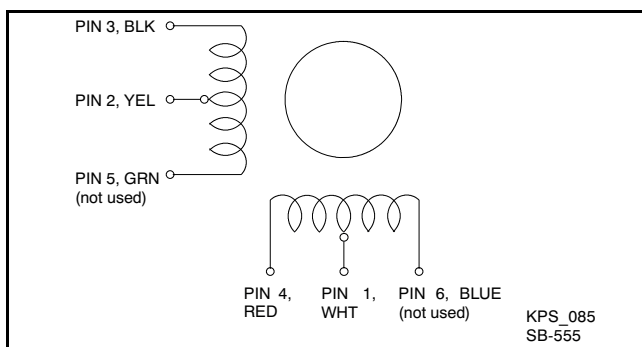

Figure 5-15 Actuator Coil Group
10. Check the stepper motor coil resistance across pins 2 and 3 and across pins 1 and 4. Only two stepper motor leads of each coil group are used (BLK-YEL and RED-WHT). See Figure 5-15. The resistance per half coil is 38.5 ohms. If one of the coils has a significantly higher resistance or is shorted, replace the stepper motor.